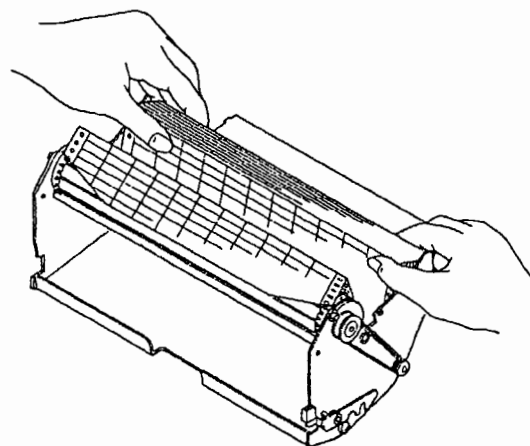

Figure 6.13
- (5) Set the chart so that the round holes in the chart are positioned at the left. (Figure. 6.13)